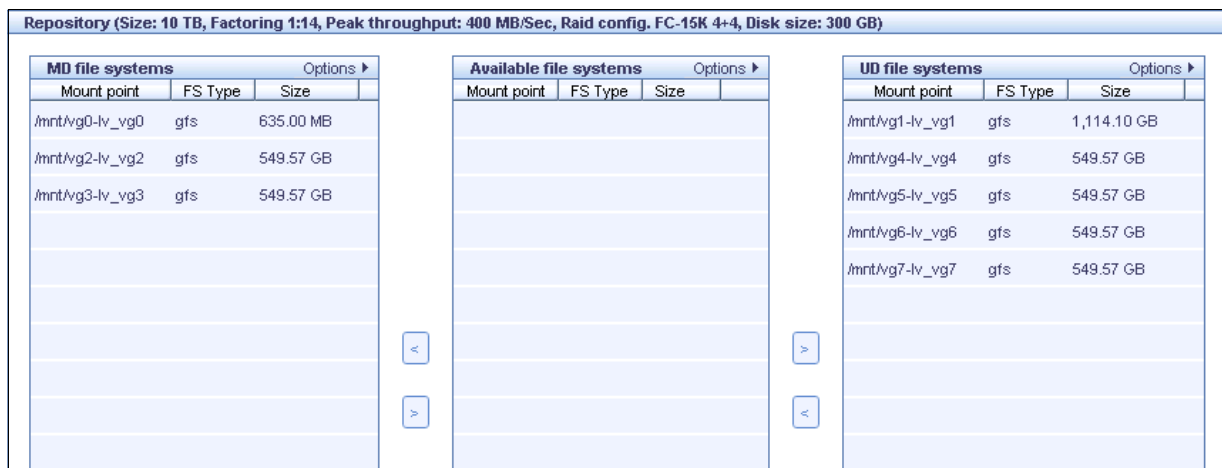

Figure 5-54 Repository resources window
- The Repository resources window also automatically open (by using the Advanced button) for you to see the actual LUNs assignment (Figure 5-54).